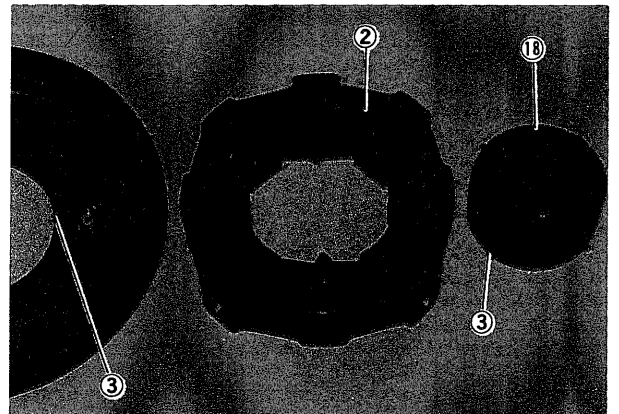

Fig. 7
- (8) Remove bolts and separate coupling (2) from boss (18). Be careful not to lose positioning pin (3). (Fig. 7)